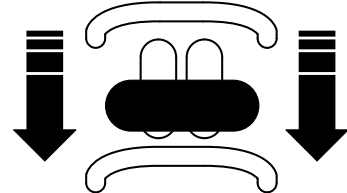

Figure 9
- To move rearward, move the traction control rearward (Figure 9).